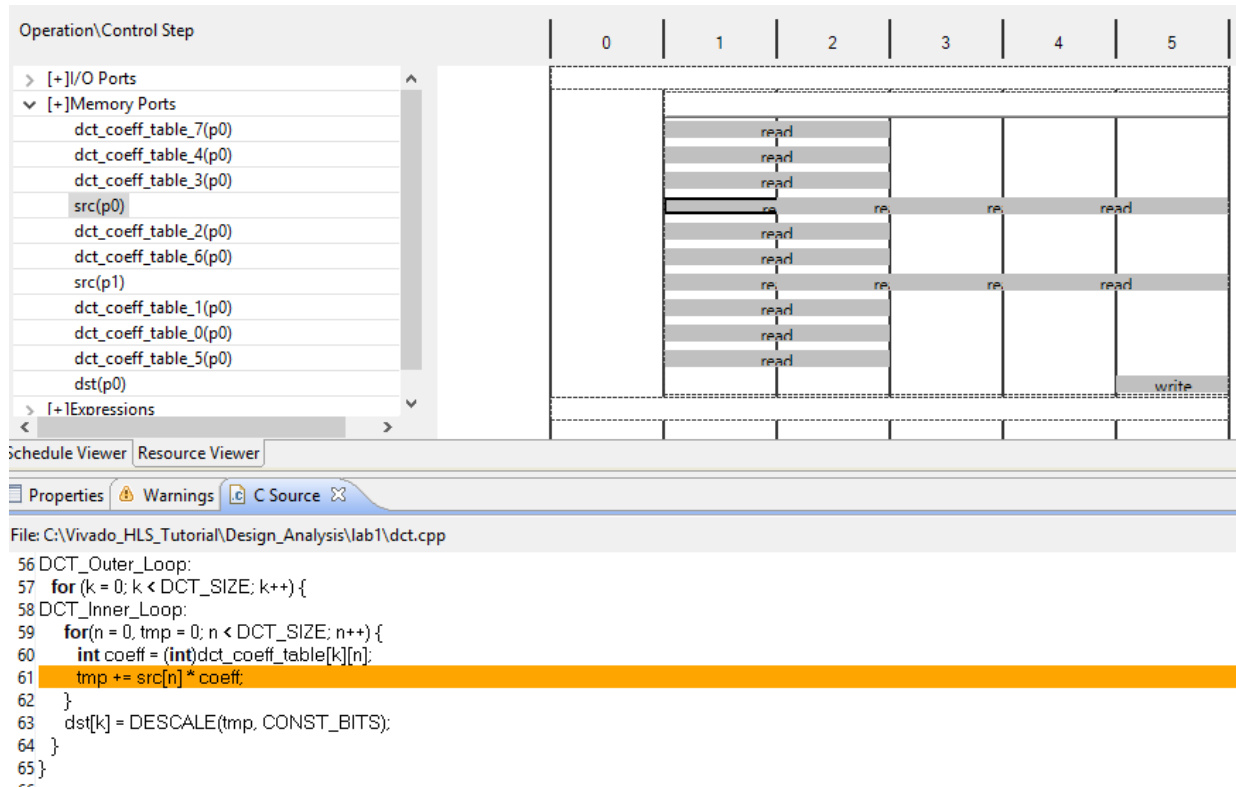

Figure 6-24: Memory Resource SRC and Source Code
18. Right-click and select **Goto Source** to see the view shown in Figure 6-24.
Figure 6-24 shows this read on the `src` variable is from the read operation inside loop `DCT_Inner_Loop`. This loop was automatically unrolled when `DCT_Outer_Loop` was pipelined and all operations in this loop can occur in parallel (if data dependencies allow).
The eight reads are being forced to occur over multiple cycles because the array `src` is implemented as a block RAM in the RTL and a block RAM can only allow two reads (maximum) in any one clock cycle. In Figure 6-24, the read operations take 2 clocks cycles: a cycle to generate the address for the block RAM and a cycle to read the data. Only the launch (address generation cycle) is shown because it overlaps with the operation in the next clock cycle.